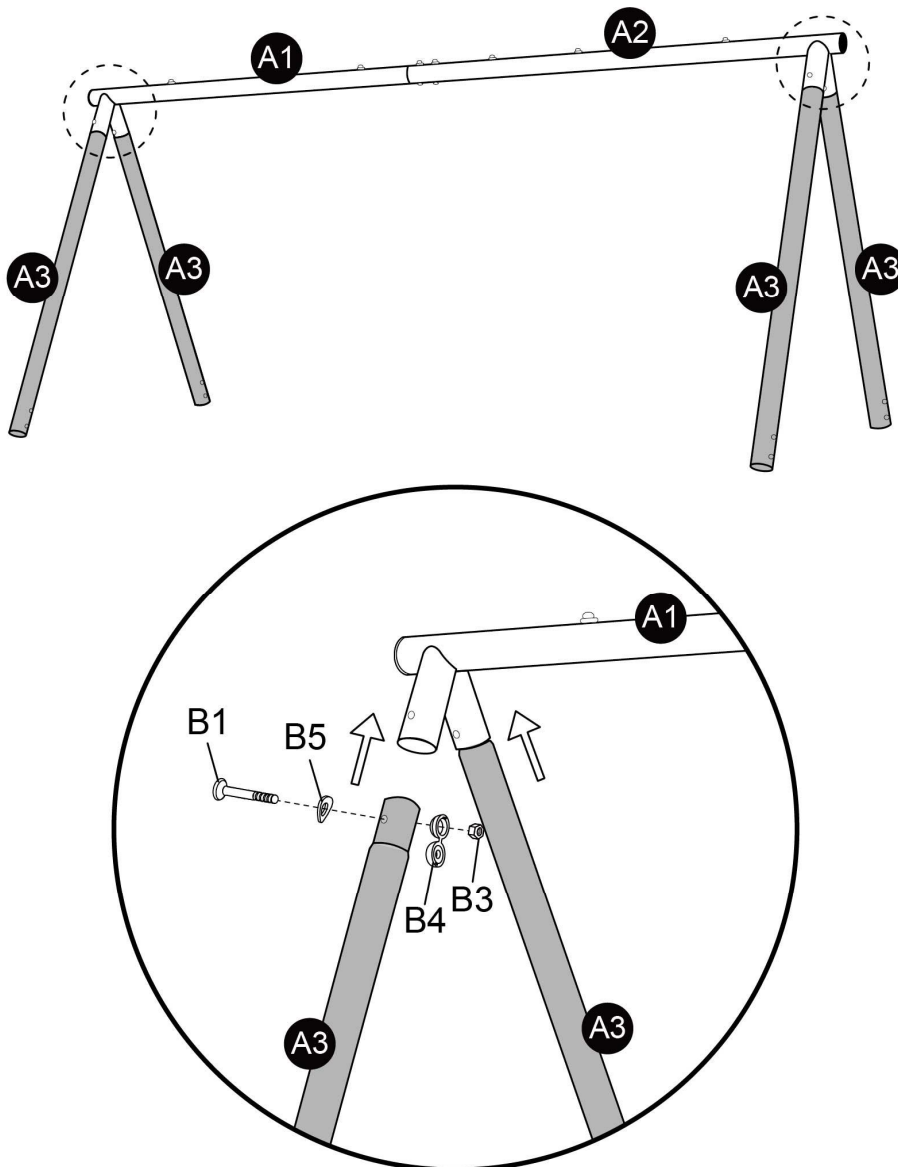

FIGURE 2
- Connect Top Section Leg (A3) to Top Bars (A1, A2). Align holes and secure with B1, B5, B4 and B3 as shown in the enlarged diagram of FIGURE 2.